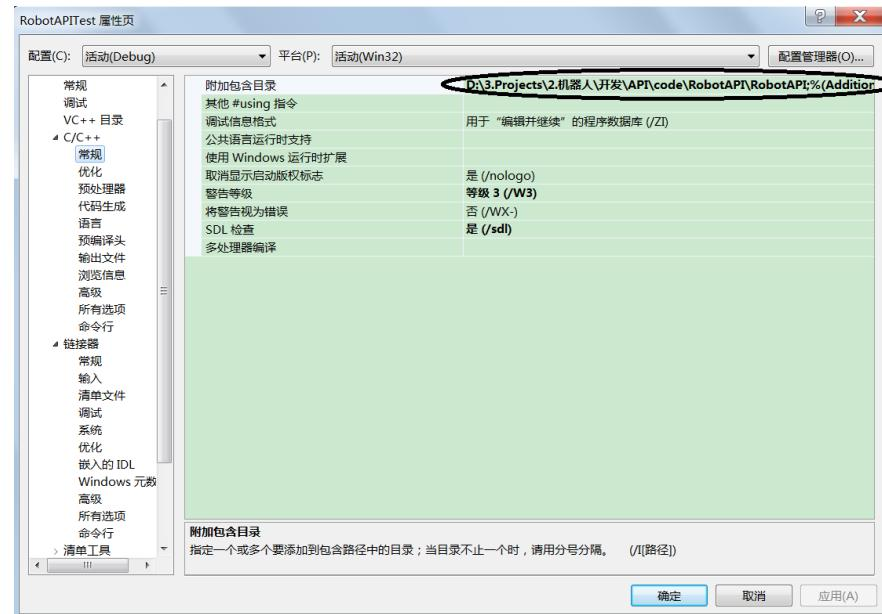

Figure 1-1 Add the directory where robot\_api.h is located in "Additional Include Directory"
Step1. After creating a C++ project, copy robot\_api.h and RobotAPI.lib to an arbitrary directory. It is recommended to copy to the project directory, in the project properties-configuration properties-C/C++-general "additional inclusion directory" Add the directory where robot\_api.h is located, as shown in Figure 1-1 below.